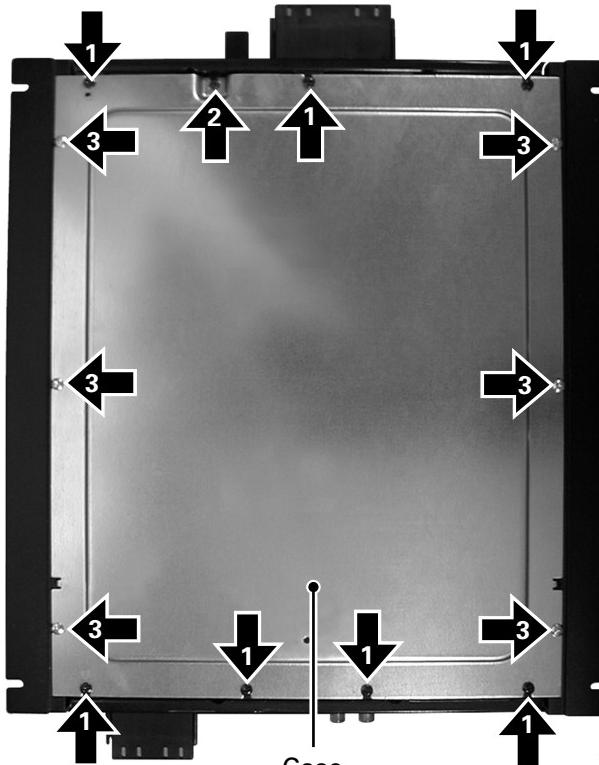

Fig.1
- **Removing the Case (Fig.1)**